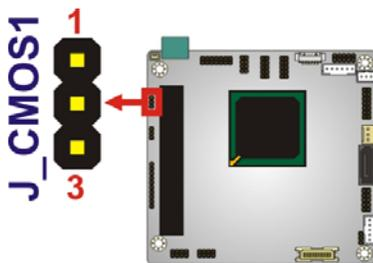

Figure 4-4: Clear BIOS Jumper Location
- Jumper Location:** See Figure 4-4